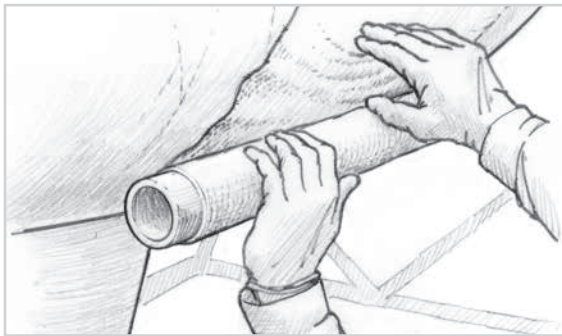

Figure 3 *Unroll the fiberglass onto the surface with one hand—spread out wrinkles and press the fabric against the surface with the other.*
7. Carefully position the fiberglass roll at the point you've chosen to start. It's generally a good idea to start high and work low. Unroll 6" of fiberglass from the roll. Press the fabric against the hull. It should stick to the epoxy coated surface without pulling away. Unroll the fiberglass/cardboard tube onto the surface with one hand. Use the other gloved hand to spread out wrinkles and press the fabric against the surface, removing air (Figure 3).